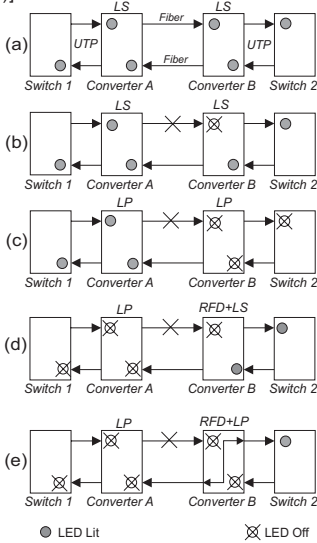

Fig.1 Link Modes
In Link Segment (LS), sometimes referred to as Normal mode, a converter port transmits a Link signal independently of any received Link at any other port. For example, the UTP transmits a Link regardless of the fiber receiving a Link [Fig 1(a) & (b)].
In Link Propagate (LP), sometimes referred to as Link Loss Carry Forward, a converter port transmits a Link signal only when receiving a Link at its other port. For example, the UTP transmits a Link only when receiving a Link at the fiber port. [Fig 1(c)].
In Remote Fault Detection + Link Segment (RFD+LS), the fiber port transmits a Link signal only when receiving a Link at the fiber port. As a result, fiber faults (no Link received at the fiber) are looped-back and can be reported to the network core [Fig. 1(d)].
In Remote Fault Detection + Link Propagate (RFD+LP), the UTP port transmits a Link signal only when receiving a Link at the fiber port. The fiber port transmits a Link signal only when receiving a Link signal at both the fiber port and the UTP port. As a result, fiber faults are looped-back and can be reported to the network core [Fig. 1(e)].